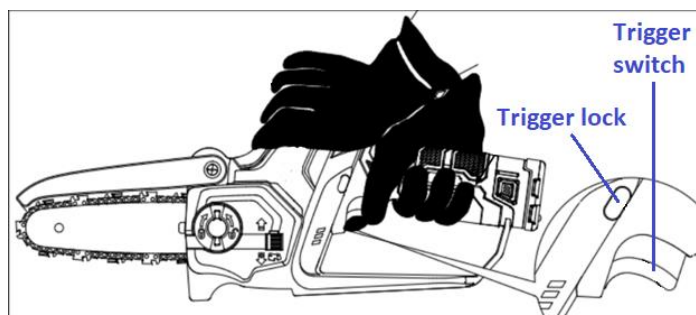

Fig. 9
- Hold and control the tool with another hand on the grip surface. See Fig. 9.
- Press and hold the trigger lock (8) with your thumb.
- Pull the trigger switch (9) to switch on the tool.